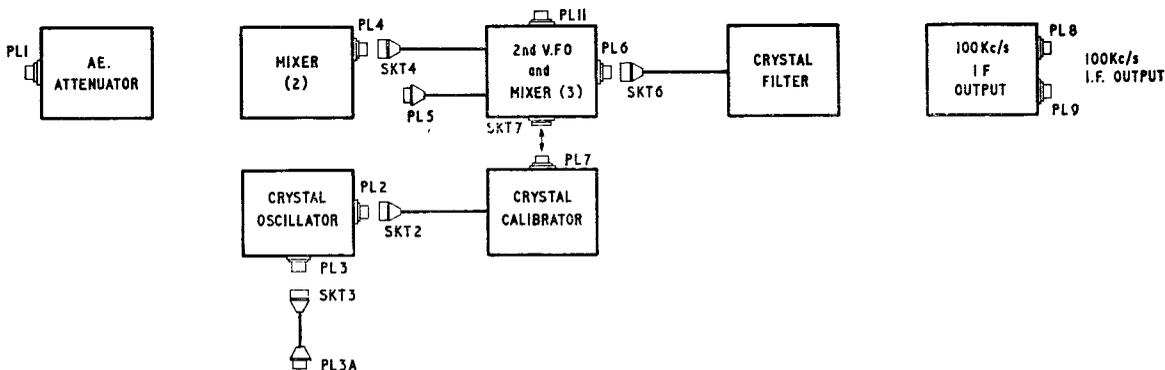

Fig. 3. Plug and socket interconnections
18. With the aid of fig. 3 and 4 and the following description, plug and socket interconnections may be easily identified.
25. The connection consists of two coaxial plugs connected in parallel (PL8/PL9—fig. 3). The total load should not be less than 70-ohms (e.g. with one outlet loaded by 75-ohms, the other can be used as a high impedance source).